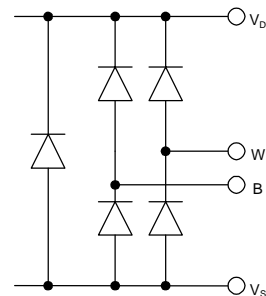

Figure 8. Maximum Terminal Voltages Set by V_{DD} & V_{SS}
The ADN2850 positive V_{DD} and negative V_{SS} power supply defines the boundary conditions for proper 2-terminal programmable resistance operation. Supply signals present on terminals W and B that exceed V_{DD} or V_{SS} will be clamped by the internal forward biased diodes, see Figure 8.
The RDAC contains a string of equal resistor segments, with an array of analog switches, that act as the wiper connection. The number of positions is the resolution of the device. The ADN2850 has 1024 connection points allowing it to provide better than 0.1% set-ability resolution. Figure 8 shows an equivalent structure of the connections between the two terminals that make up one channel of the RDAC. The SW_B will always be ON, while one of the switches SW(0) to SW(2^N-1) will be ON one at a time depending on the resistance position decoded from the Data Bits. Since the switch is not ideal, there is a 50Ω wiper resistance, R_w. Wiper resistance is a function of supply voltage and temperature. The lower the supply voltage, the higher the wiper resistance. Similarly, the higher the temperature, the higher the wiper resistance. R_w is the sum of the resistance of SW(D) + SW_B from Wiper-to-B terminals. Users should be aware of the contribution of the wiper resistance when accurate prediction of the output resistance is needed.